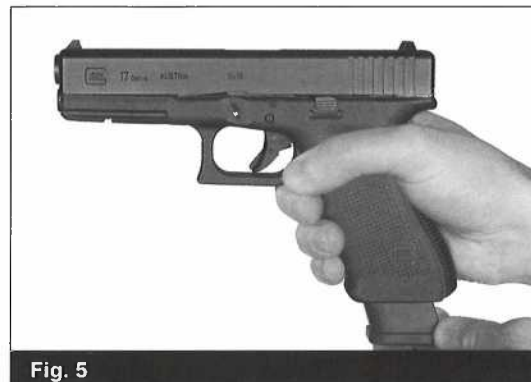

Fig. 5
- With fingers outside the trigger guard, press inward on the magazine catch and remove the magazine. (Fig. 5)